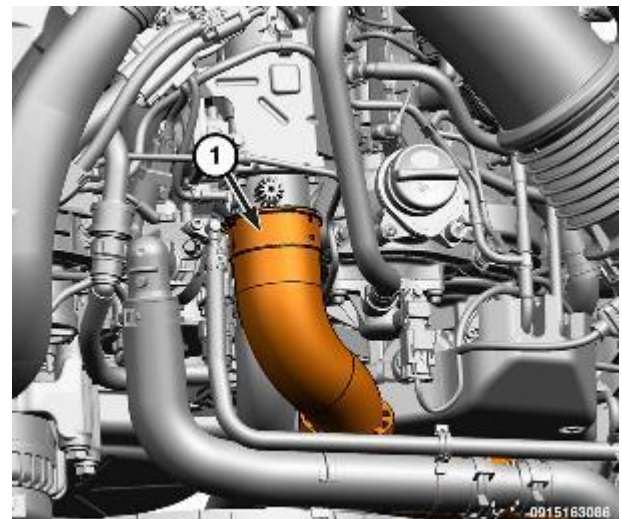

Figure 123 – CAC Hose Clip
56. Release the retaining clip (1) and disconnect the CAC hose from the EGR air flow control valve (Figure 123).